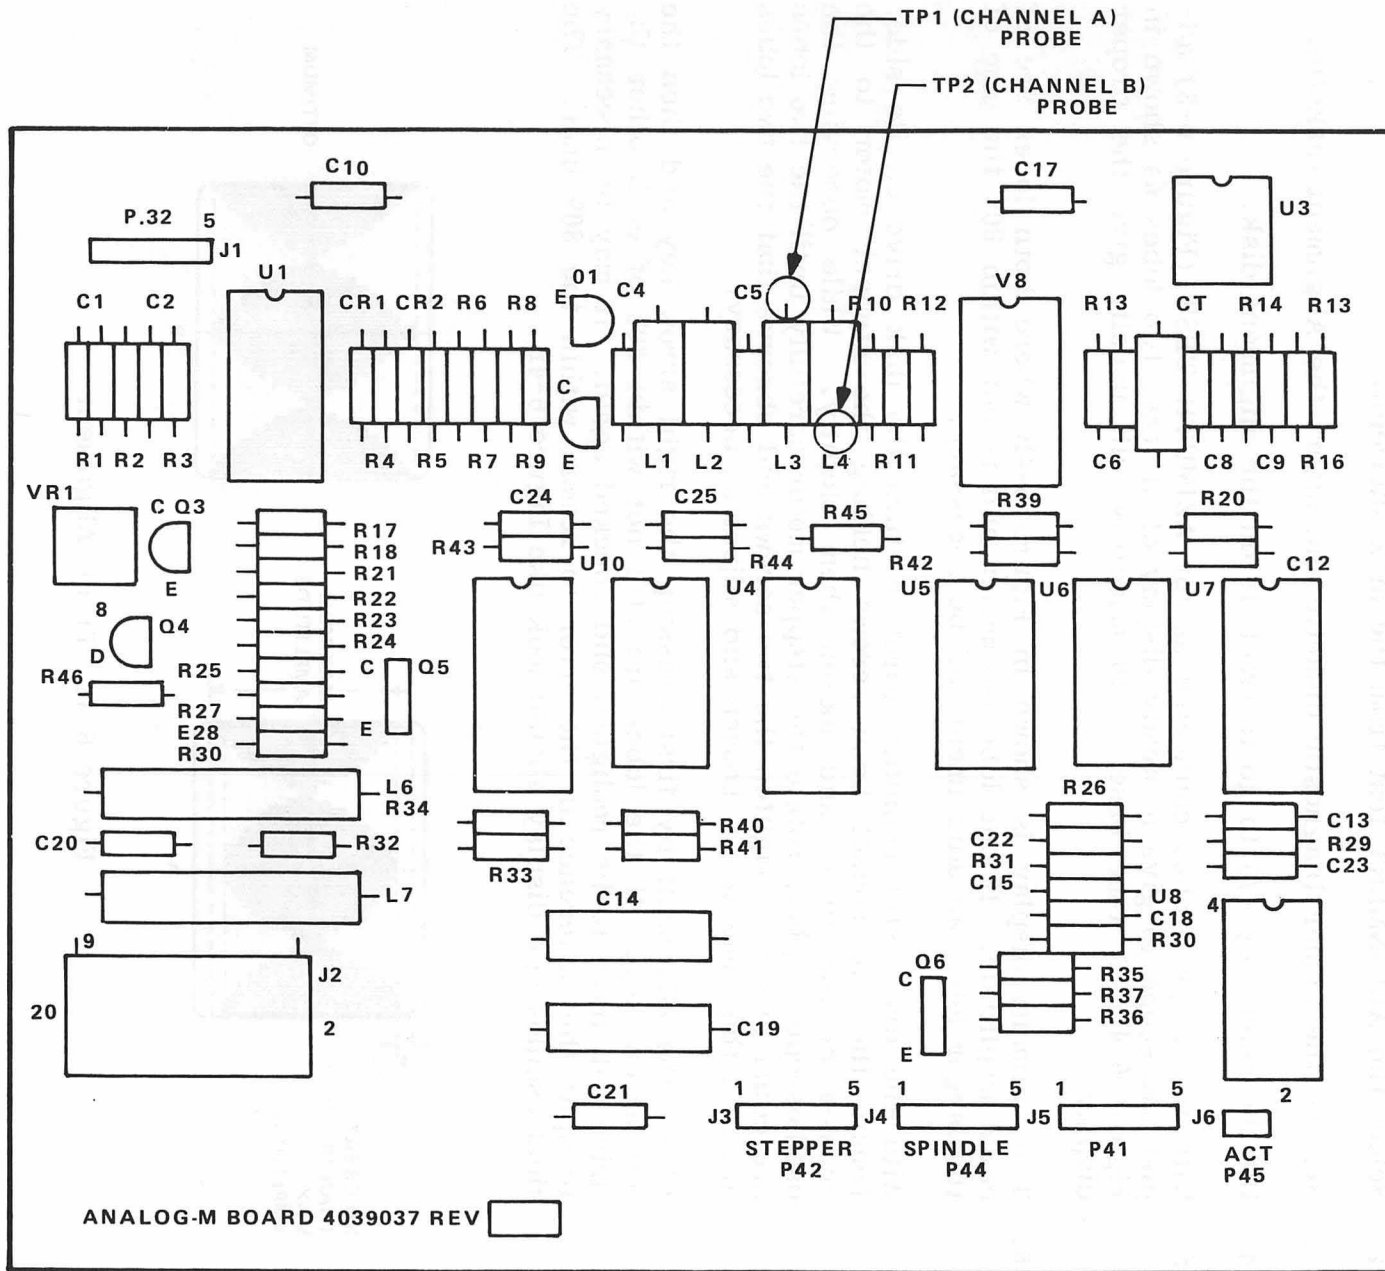
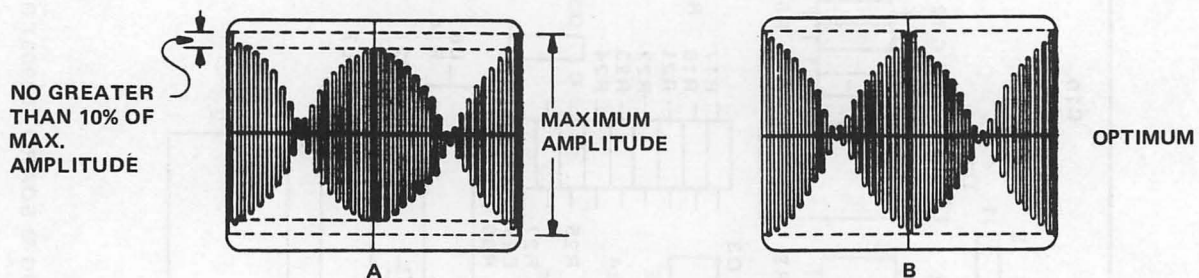

Figure 6-3. Analog-M-Board MPI Disk Drive
Figure 6-4. Track Alignment
2. Select the (D) Azimuth test.
3. Using a dual trace oscilloscope attach channel A probe to L3 and channel B probe to L4 on analog card. Figure 6-3.
5. With the scope probes connected as for AZIMUTH TEST (Figure 6-3) adjust the scope to give a steady display of at least two lobes as shown in Figure 6-4. A time base of 10 msec/div will usually give the proper display.